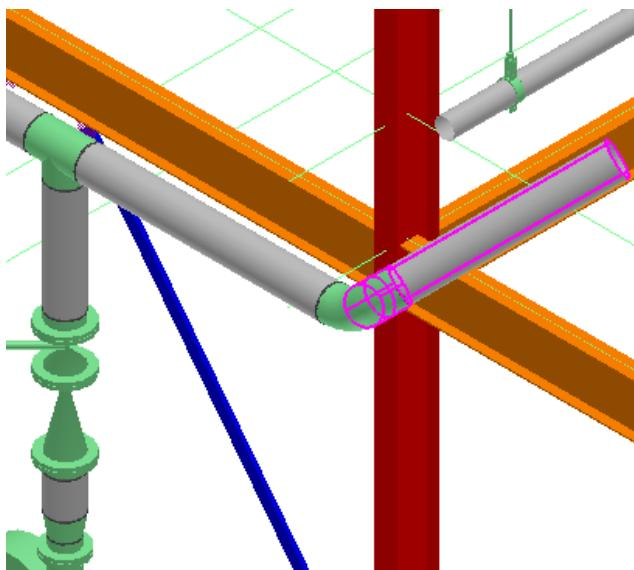

Figure 10: Selected Pipe Parts
3. Make sure the **Locate Filter** is set to **Piping Parts**. Now select the 45 deg elbow and pipe you have placed, as shown in Figure 10.